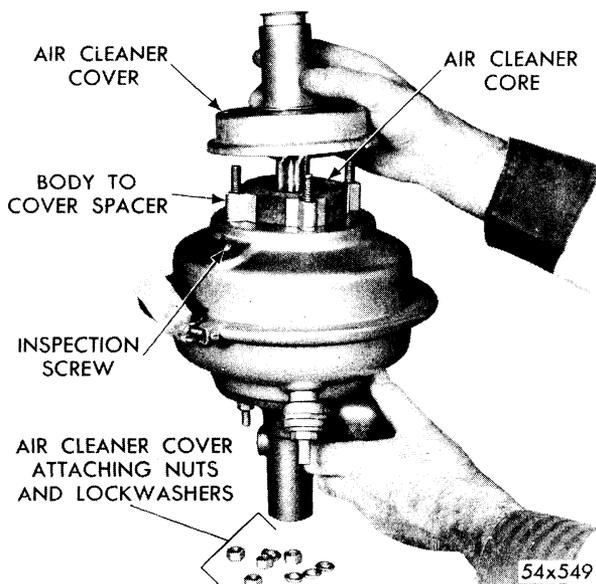

Fig. 72—Removing or Installing Air Cleaner Cover
- (3) Remove reinforcement plate and air cleaner cover assembly. With cover assembly removed, lift out four spacers and air cleaner core, as shown in Figure 72.
- (4) Remove valve side body from cylinder side body by removing two clamp rings. These are held in position by two clamp ring screws, hex nuts and lockwashers.